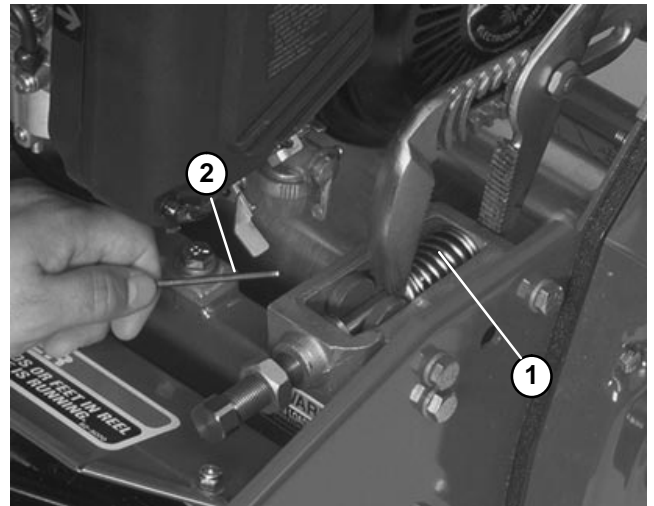

Figure 28
Use caution when removing the bedbar. Adjusting screw springs are under tension and could release suddenly (Fig. 28).
5. Compress spring with channel lock pliers. Remove pin from both frame adjusters. (Fig. 28).